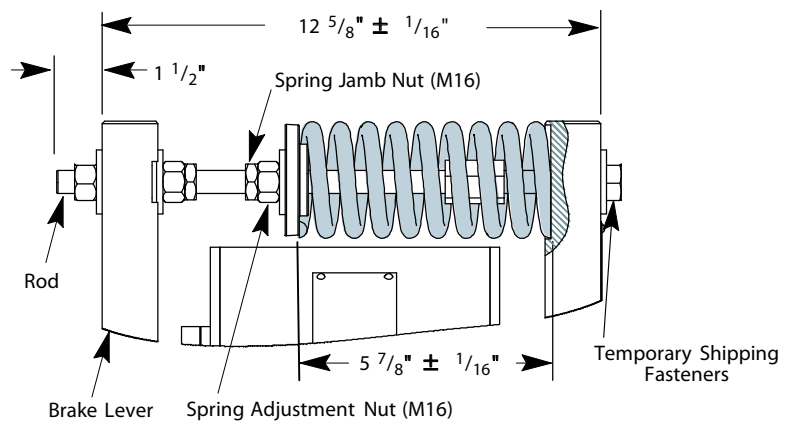

Figure 17 - Spring Adjustment
1. Verify the distance between the outside of the brake levers. The top distance is $12 \frac{5}{8}'' \pm \frac{1}{16}''$, and the spring length is $5 \frac{7}{8}'' \pm \frac{1}{16}''$. See Figure 17.